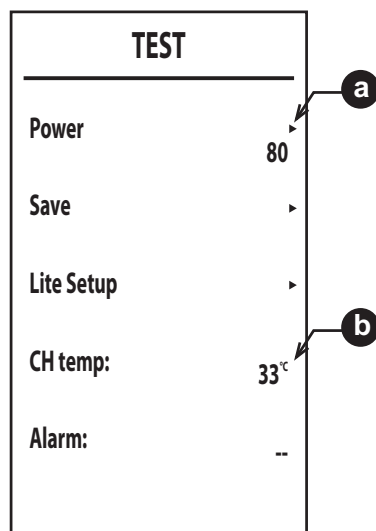

fig. 37
- Press the heating buttons to scroll the first 3 items (Power, Save, Lite Setup - fig. 37) press the button to confirm the choice.